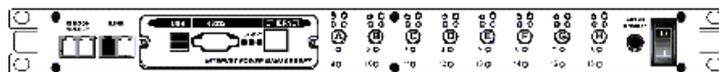

Figure 3 - First ServPower Freelancer
1. Make sure that the terminator is plugged into the first ServPower Freelancer's cascade port (see Figure 3).